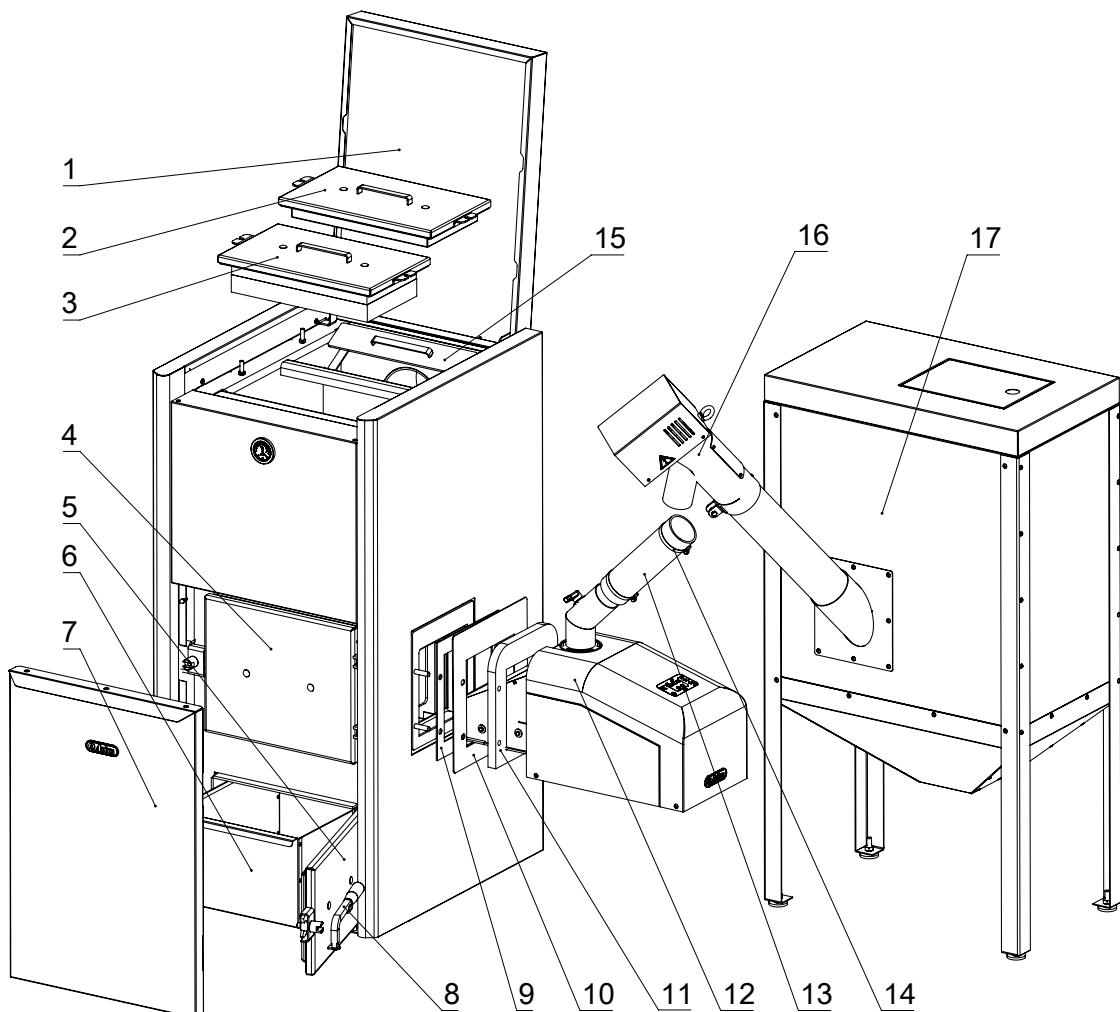
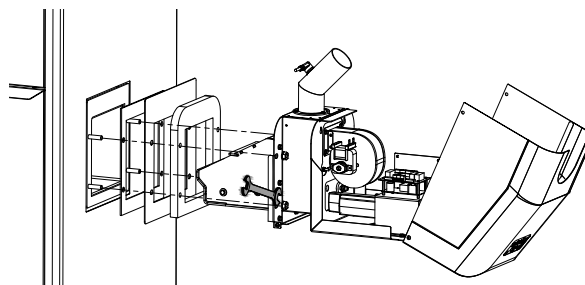

Fig. 6. Pellet boiler elements
Fig. 8. Burner installation in the boiler.
Put the following on the boiler flange in sequence: gasket (Fig. 6 pos. 9), decorative cap (Fig. 6 pos. 10), burner gasket (Fig. 6, pos. 11) and the burner (Fig. 6 pos. 12). Tighten the four M10 nuts on the boiler flange studs (Fig. 8).
Insert Astra pellet loading conveyor PA-12 in the pellet hopper (Fig. 6 pos. 17) through the special branch pipe. The lower end of the pipe must lie on the bottom of the pellet hopper. For convenience of installation and maintenance, the pellet loading container can be tied to the boiler room ceiling using the loop on the unit. One end of the flexible hose place onto (Fig. 6 pos. 13) the branch pipe of the pellet loading conveyor, and the other – on the burner fuel supply pipe. Tighten the two clips (Fig. 6 pos. 14). The use of flexible hose use is mandatory – it is a safety element. If the pellets ignite in the pellet supply pipe, the hose will melt and break the connection between the source of fire and the pellet container. The flexible hose must be mounted straight (there must be no visible hose play – dust and fine granular particles can accumulate in the hose grooves because of the play).